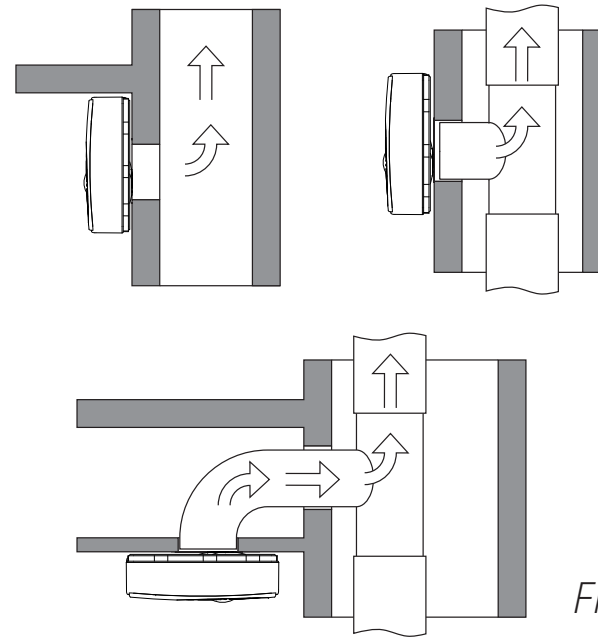

Fig. 2
- If the vent pipe is vertical, there must be a branch to the fan, Fig. 2. A direct vertical vent pipe is not permissible, Fig. 3.